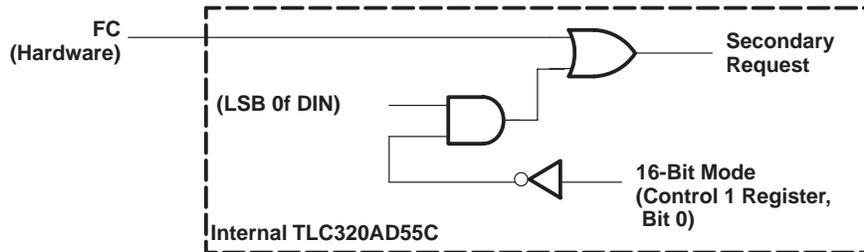

Figure 3–3. Hardware and Software Methods to Initiate a Secondary Request
1. Figures 3–5 and 3–6 show the two different methods by which FC requests secondary communication words as well as the timing for \overline{FS} , DOUT, DIN, and SCLK. The examples span two primary communication frames. Figure 3–5 shows the use of hardware function control.